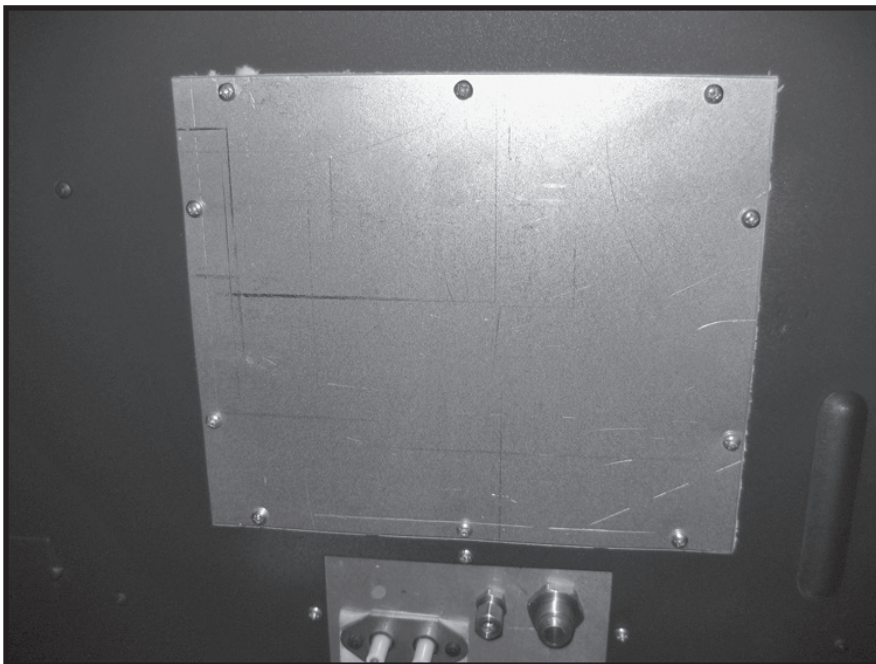

Figure 2: Access cover to valve control center.
1. Remove access cover from the valve control center at the inside right hand side of the firebox (Figure 2).
7. Remove the valve control center access panel (See “Figure 2” on page 2).